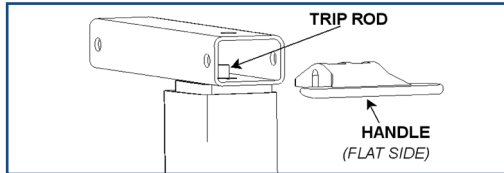

FIGURE 2
4. Place the Top (#1) on a flat surface, with the Top Bracket (#9) facing upward. Then, while holding the Trip Handle (#4) in place so it doesn't fall out, insert the Column (#6) into the Top Bracket (#9). Align the holes in the Column foot (#6), the Trip Handle (#4) and the Top Bracket (#9). Install both bolts (#2) and both nuts (#5) thru these aligned holes with the two (2) 7/16" wrenches. Fig. 2